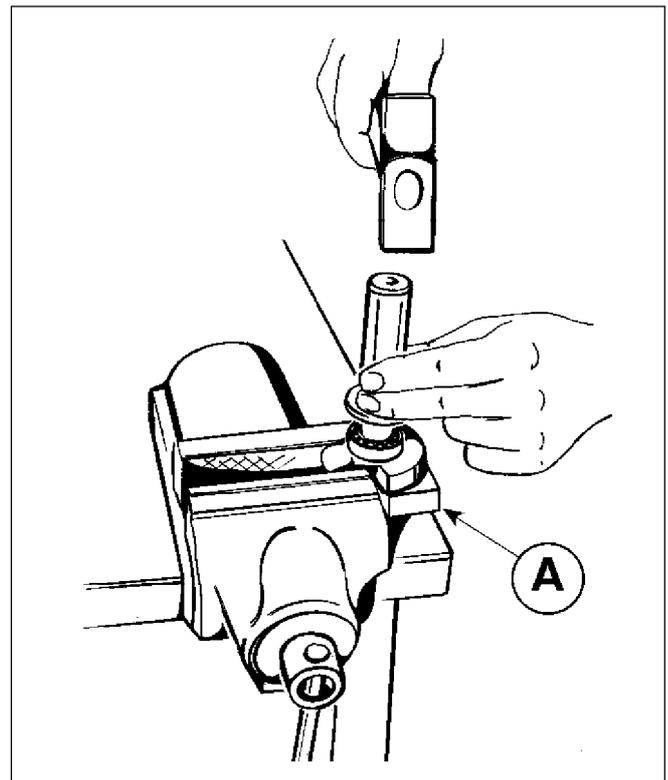

Fig. 21
**NOTE** - Support the crankshaft webbs when driving on new PTO bearing (FIG 21, A)